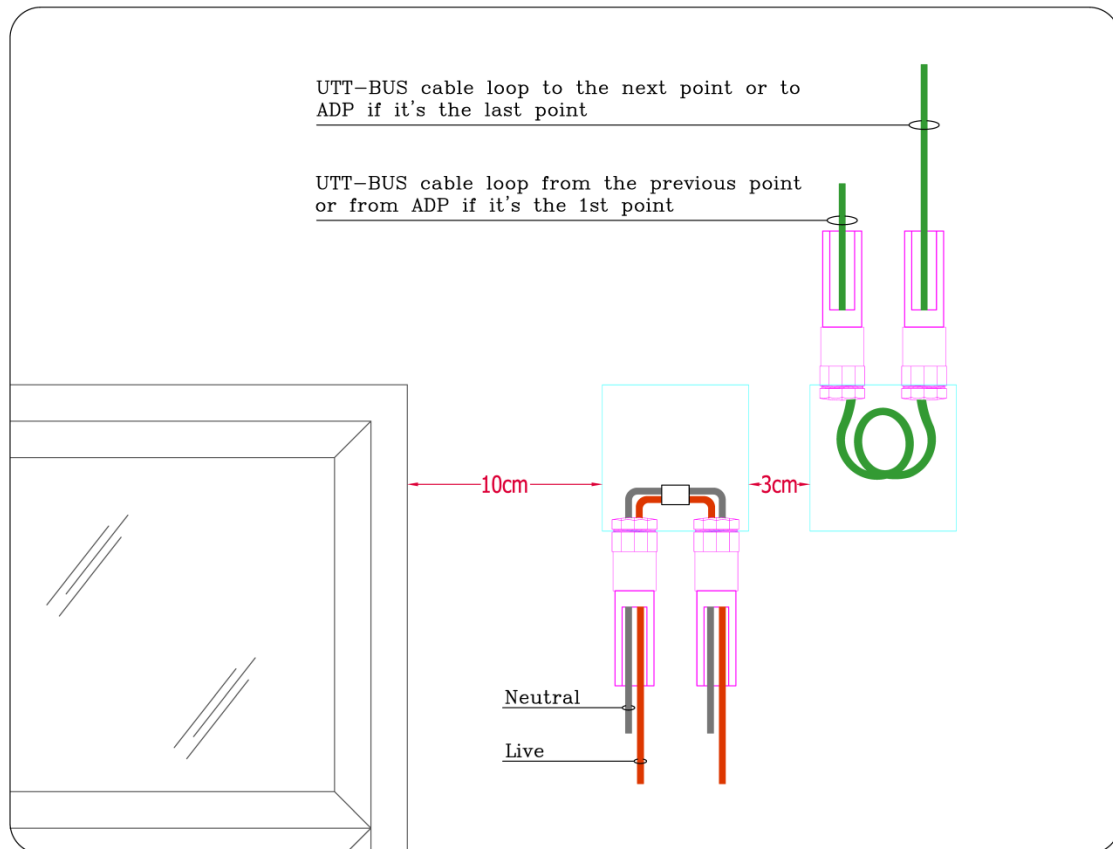

Figure 1.1.11: Shade & Curtain Connections
- Two back boxes with blank plates should be provided at the top right side of all windows at the curtain location (10-20 cm away from the window frame) as in Figure 1.1.11. As a suggestion, creating a curtain box helps hiding the back boxes.